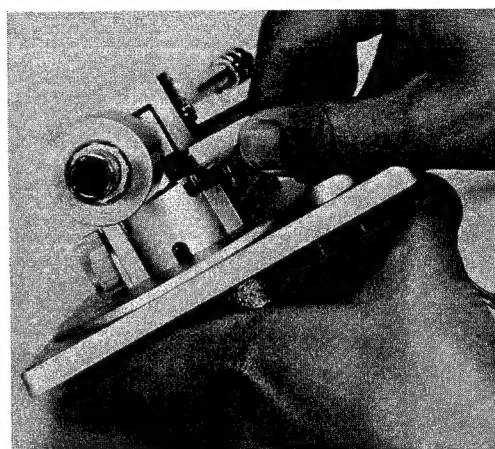

Fig. 17
4. Removal of Tonearm (Fig. 17)